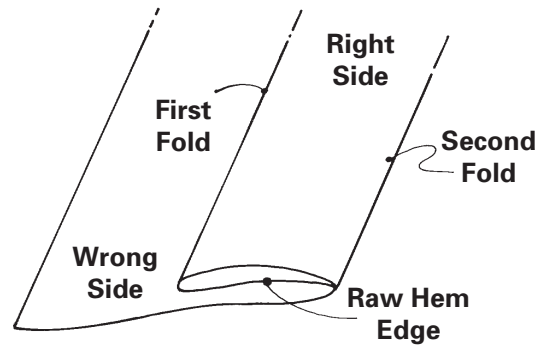

Fig. 24-6
2. Press the hem allowance to the wrong side of the garment. Fold the same width to the wrong side a second time, catching the raw hem edge in the second fold. (Fig. 24-6) Pin in place near the first hem fold.